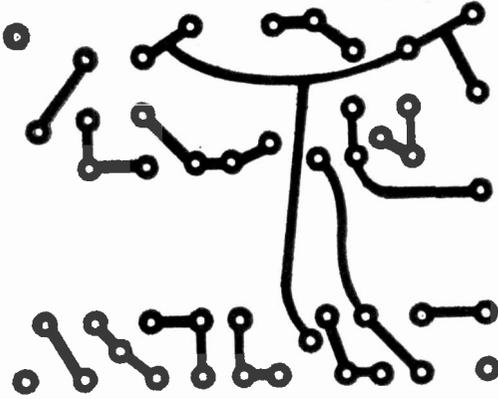

Fig. 2. Use best-quality copper-clad glass-epoxy-base board to maintain high input resistance of pH meter.
**Construction.** The transistors, resistors, and other small components are mounted on a printed-circuit board shown full size in Fig. 2. Use glass-epoxy-base copper-clad board instead of the ordinary paper-phenolic type to maintain high input resistance in humid weather. After the board is etched, wash it at least ½ hour in running water; then dry it thoroughly and drill it. Install all components, ex-